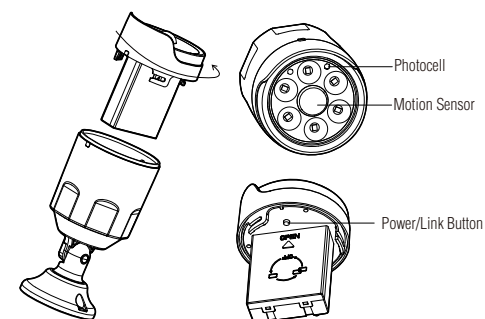

Figure 4
2. To operate lights with linking function, press the power/link button two times on each light to be linked. A red light will activate for 3s on each light meaning they have been linked successfully. (Figure 4)